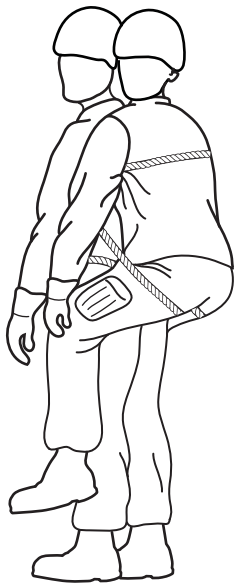

Figure 9-1. Sling Rope Carry.
- Then the ropes are run between the casualty’s legs, around the thighs, and tied with a square knot with two overhands just above the bearer’s belt buckle. See figure 9-1 on page 9-2.